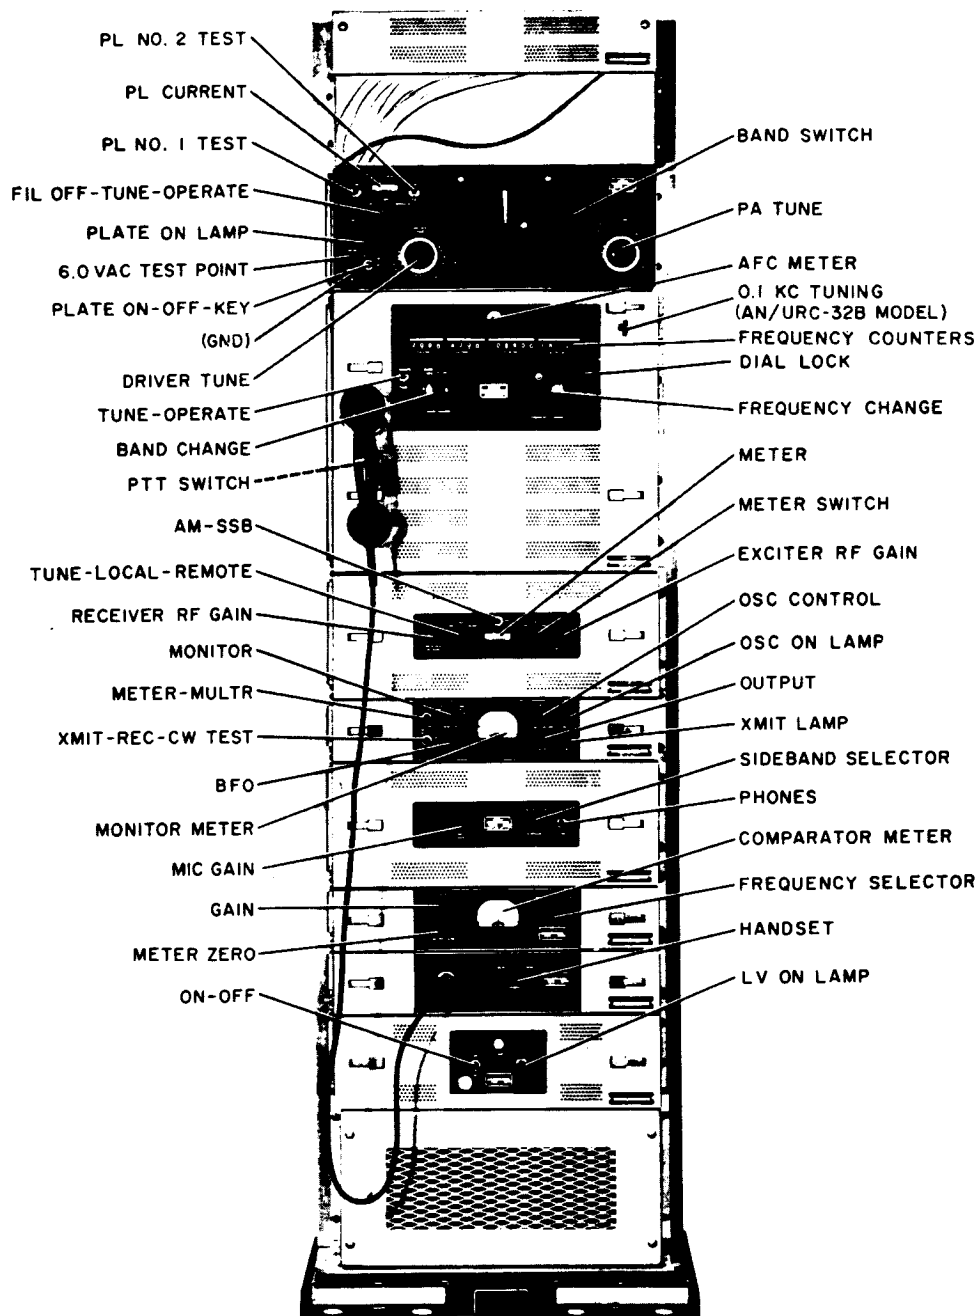

Figure 3-1. Radio Set AN/URC-32(), Operating Controls and Indicators
(e) To select a 0.1-kc operating frequency (AN/URC-32B models) adjust 0.1KC TUNE control (see figure 3-1) to desired frequency.
(1) RECEIVER TUNING. - Refer to figure 3-1. The following tuning procedure is used whenever the transceivers (AN/URC-32()) are set to a new operation frequency:
(2) TRANSMITTER TUNING. - Refer to figure 3-1. Perform the receiver tuning procedures before attempting to tune the transmitter portion.